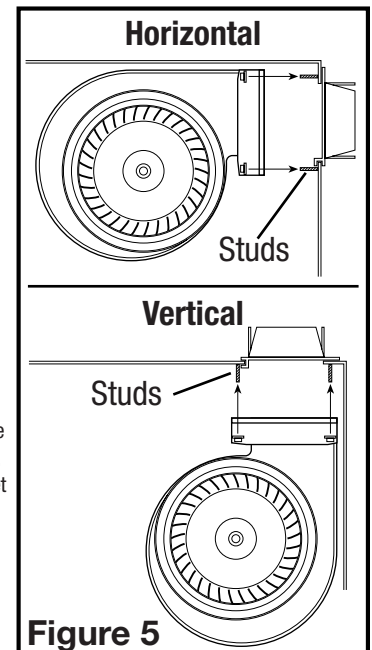

Figure 5
1. With the opening of the blower facing the direction you have chosen to duct the hood, place the blower mounting brackets (brackets on either side of the blower) over the blower mounting studs on the interior of the hood (**Figure 5**).
2. Using the 4 nuts removed earlier, secure the blower in place. Start the nuts by hand first, then tighten with a 3/8" nut driver or ratchet until they are fully seated (**Figure 5**).